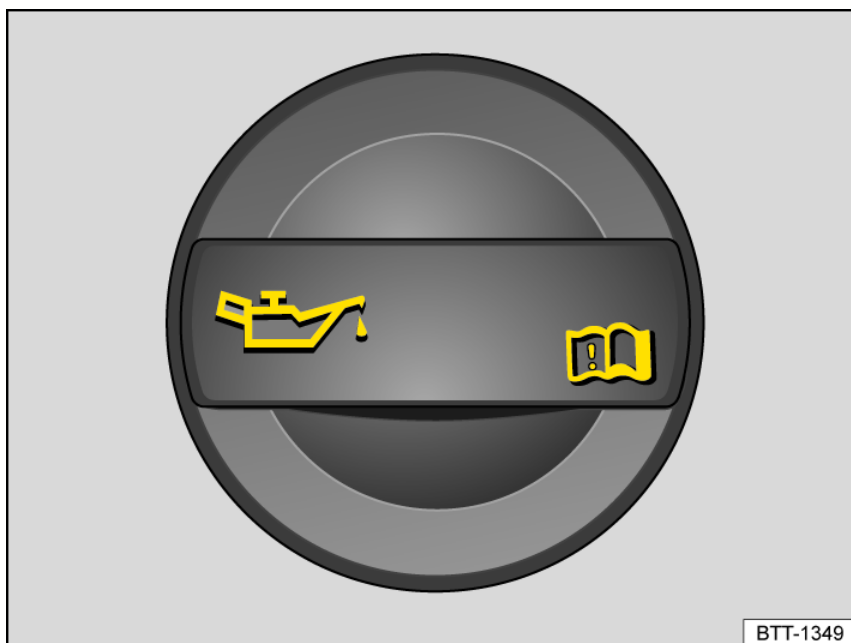

Fig. 194 In the engine compartment: engine oil filler cap (general example).
4. Find the engine oil filler and the dipstick. You can identify these by the 🛢 symbol on the engine oil filler cap and the colored handle on the dipstick fig. 194. you are not sure where the cap and the dipstick are located, contact an authorized Volkswagen dealer or authorized Volkswagen Service Facility for assistance
9. Remove the cap on the engine oil filler *fig. 194*.